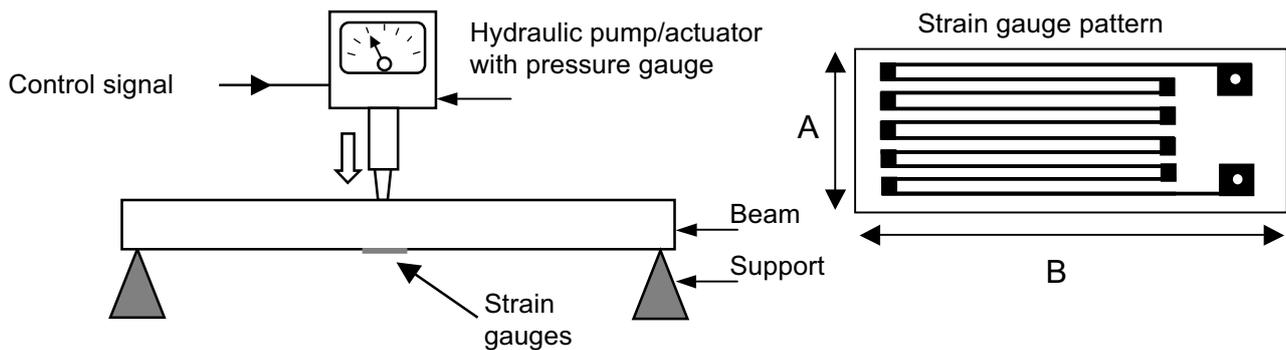

Fig. 1(a)
- 1 An electronic system has been devised to measure the deflection of steel beams under loading. **Fig. 1(a)** shows how the beams are to be loaded using a hydraulic pump/actuator which is switched by an electrical control signal. The placement of strain gauges on the beam is shown along with the pattern of a typical strain gauge.